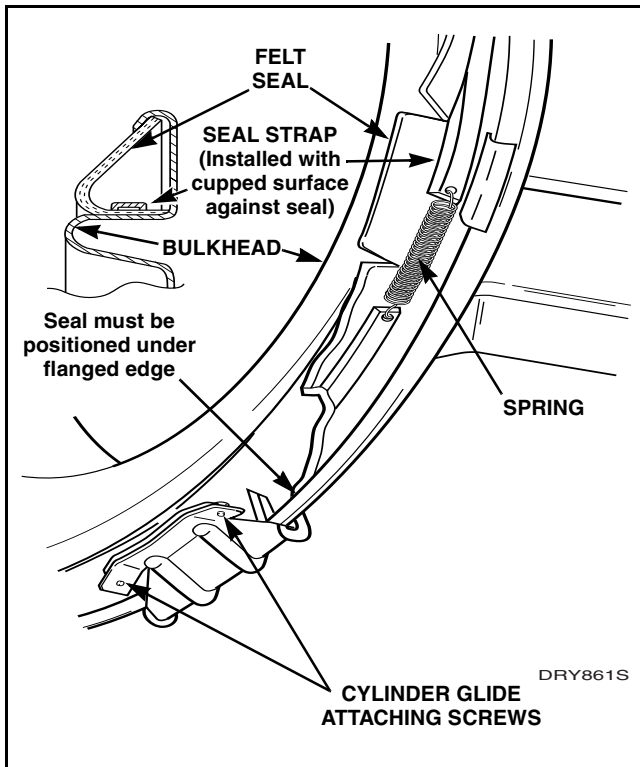

Figure 29
- d. Unhook spring from seal strap. Refer to *Figure 29*.